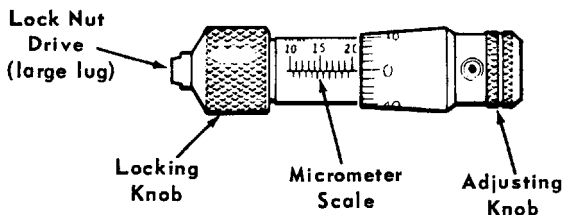

FIGURE 8
- a. Slide the Adjusting Knob of the Quick-Setting Wrench all the way out (extreme open position). See Figure 8.